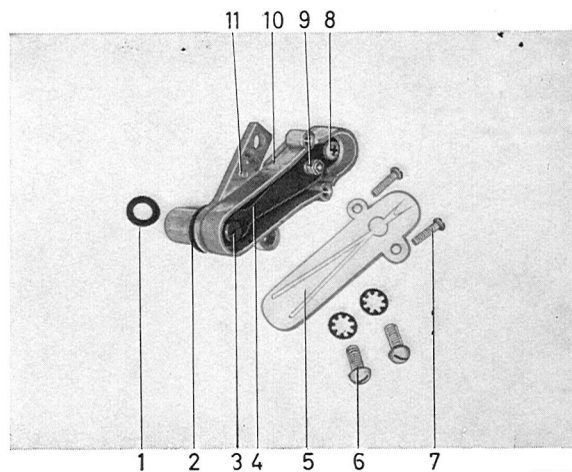

Fig. 2-121. Temperature compensator
3. Should there be a powerful drop in the idling speed during idling for a lengthy period, especially when the weather is warm, check the function of the temperature compensator by removing the plastic cover and pressing in the valve (3, Fig. 2-121). This should move under very
The temperature compensator is replaced complete. It is removed from the carburetor by removing the screws (6, Fig. 2-121). Take out the old seal (1)
NOTE. The temperature compensator is marked "120°" for the B 20 A engine and "60°" for the B 20 B engine (see 11, Fig. 2-121).